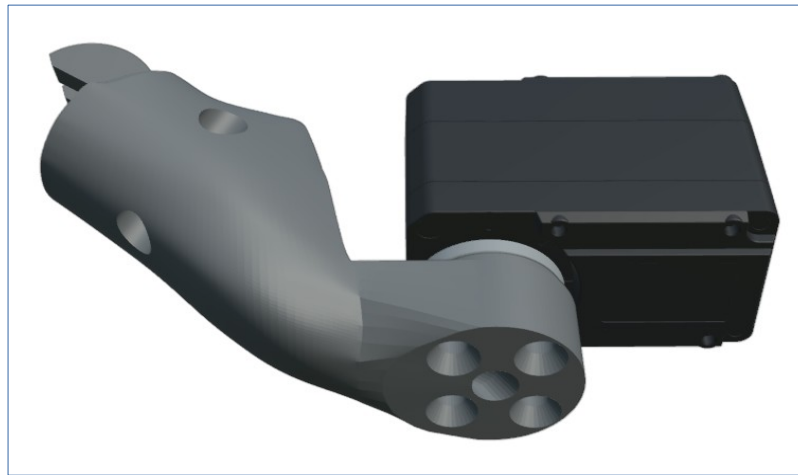

Figure 5.4: Thumb Base on the Thumb Rotation Servomotor
2. Install the TRS on the TRS Platform as shown in figure 5.4 and fasten it with 4 M2 self-tapping screws, button head, Phillips drive, max 6.5 mm long (do NOT use longer screws, otherwise the servo motor will be damaged).